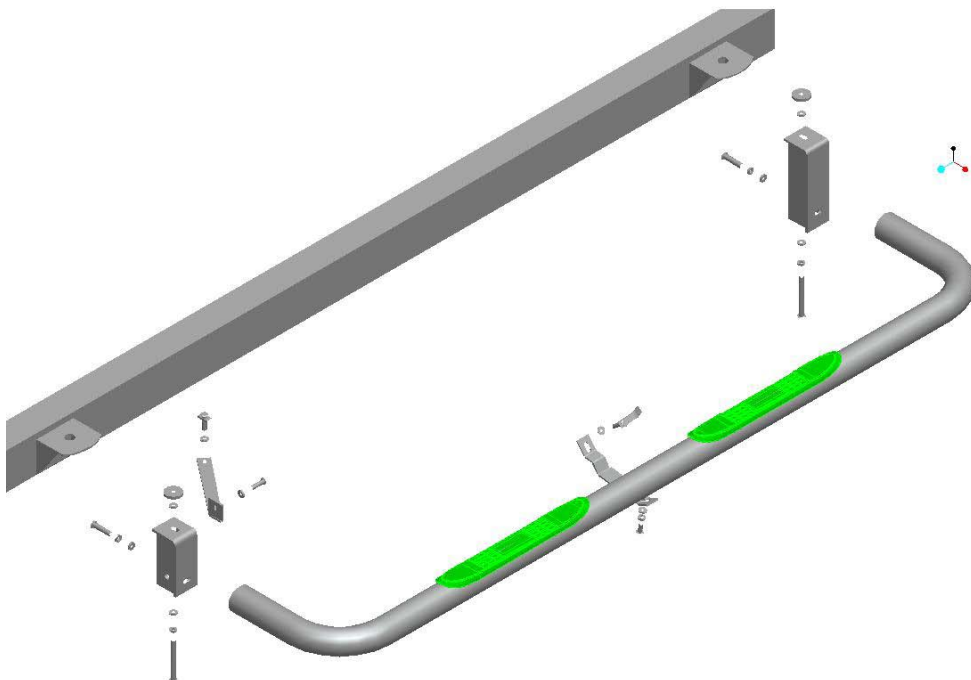

Figure 1.3 –Driver-Side Front Assembly View (1500/2500/3500 Series set-up shown)
2. From underneath truck, loosen and remove body mount bolts that run upward through mounts into floorboard. Attach and secure Front Mount Bracket to underside of vehicles front body mount (see Figure 1.3), re-using isolator, but replacing factory bolt with (1) M12 – 1.75 x 120mm bolt, (1) 1/2" LOCK WASHER, and (1) M12 FLAT WASHER. Also,
4. Attach and secure Center Brace brackets. See Figure 1.3 to know where to install the Center Brace Brackets.